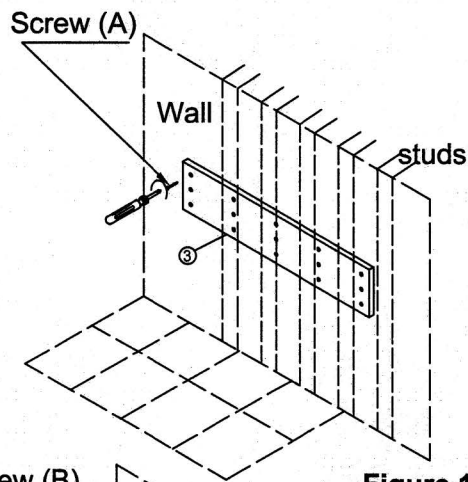

Figure 1
- Hold the plywood panel (3) against the wall and align the screw holes with your stud locations.
- See Figure 1 for recommended mounting height
- Use long screws (A) and drive them through the plywood panel to secure.
- Use short Screws (B) to attach the wooden hanger (2) to the plywood panel (3).